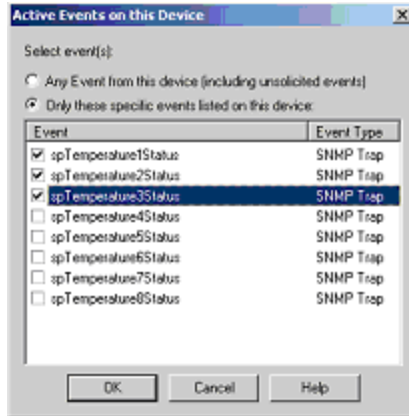

Figure 14 Active Events dialog box
- 5.8. Press Select Events button to open Active Event dialog box shown in Figure 14.
- 5.9. Select only these specific events listed on this device and activate desired trap events by clicking the check box corresponding to them. WhatsUp Gold will send a notification when it receives an active trap event. In figure 14, the first three events are active.